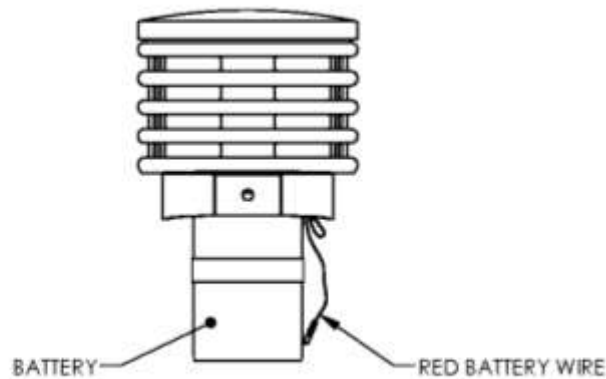

Figure 6. Battery connection
5. Connect red battery wire to red (positive) battery terminal (see figure 6).
4. Place cover plate half with pin into socket (see Figure 6). Place second half into socket.